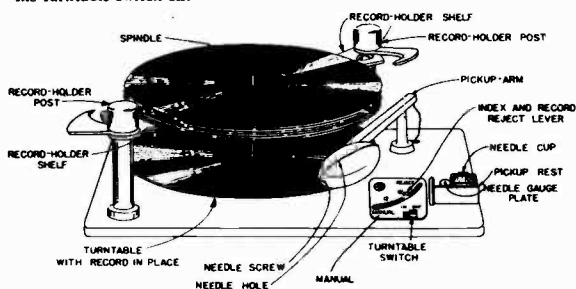

Fig. 1. Automatic Record Changer
1. Turn the record support to the 10 inch position. (See Fig. 1).
2. Place the series of records (up to eight 10-inch or seven 12-inch records) on the record-holder posts (as shown in Fig. 1). The records should be arranged in the desired order with the desired selection face up and the last selection on top.